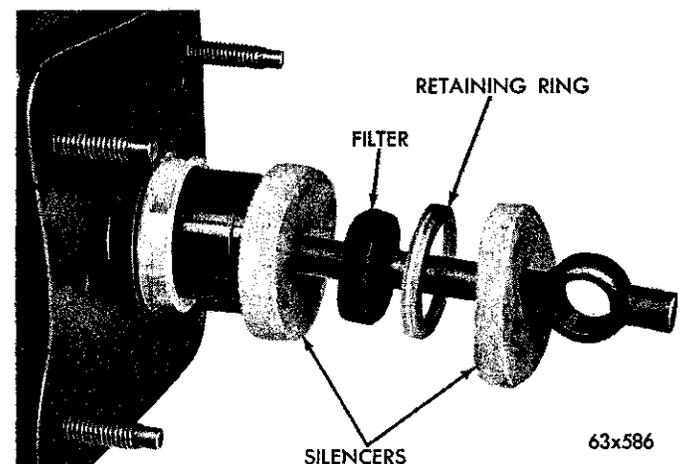
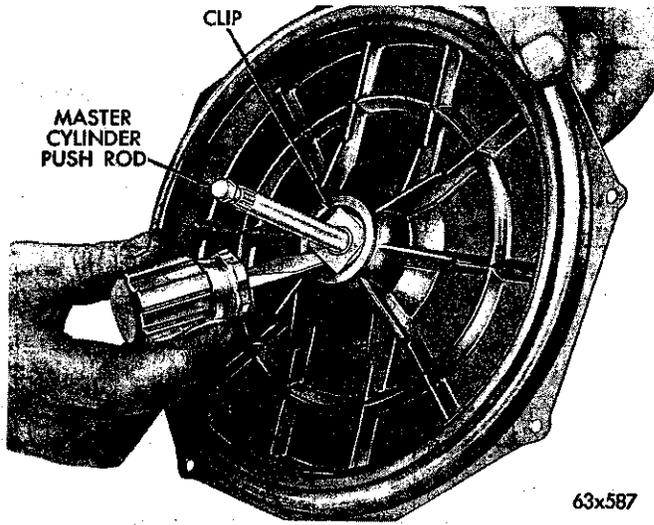

Fig. 17—Air Filters and Silencers
Fig. 18—Removing Push Rod Retainer
(3) Pry off the retaining ring on the back of the booster and remove the air filter and silencers (Fig. 17).
(4) Place the booster assembly in a vise, scribe the front and rear shells for indexing location, then remove the eight front to rear housing screws.
(5) Holding the two shells together, remove the booster from the vise and carefully separate the two shells.
(6) Remove the return spring.
(7) Remove the master cylinder push rod retainer (Fig. 18).